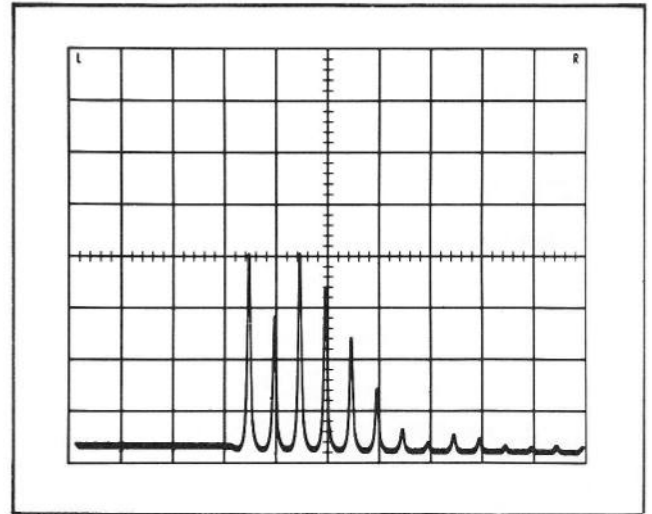

Fig. 6-29. Calibrator display when checking MANUAL sweep operation.
- e. Rotate the SWEEP control through its range. The display should resemble Fig. 6-29.